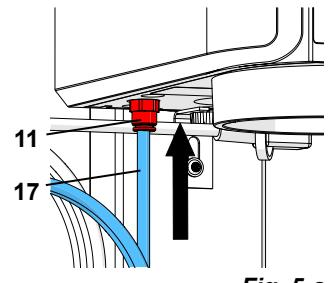

Fig. 5-a
**In previous devices, the inlet filter (12) was situated outside the device (Fig. 5-b). In these cases, push the compressed air hose (17) onto the inlet filter (12). There will be a slight resistance to overcome when attaching.**